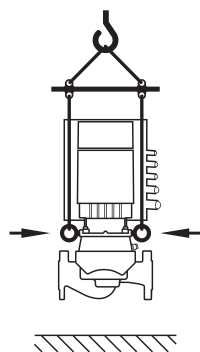

Fig. 8: Transporting the pump
- **The pump must be transported using approved lifting gear (e.g. block and tackle, crane, etc.). They must be attached to the transport eyes at the motor flange (Fig. 8, shown here: Lifting direction with vertical motor shaft).**